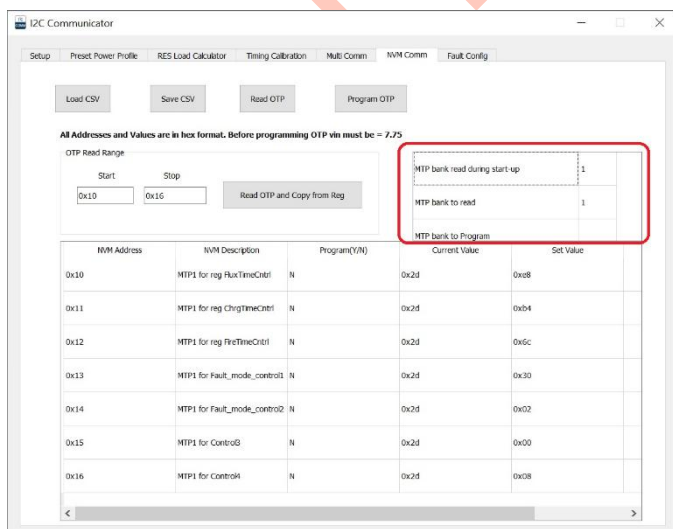

Fig. 5 GUI's NVM Comm screen showing MTP Bank information
5. There are three fields of information shown in the right side of the NVM Comm page, as marked with red box in Fig.5 below. **MTP bank read during start-up** reads from the OTP directly and tells the status of MTP usage. Each time the NVM Comm tab is selected, this field will automatically reflect the latest information on which MTP bank is being read during the start-up of this IC. When a new MTP bank is programmed, this field will also be auto updated to show that (read only).